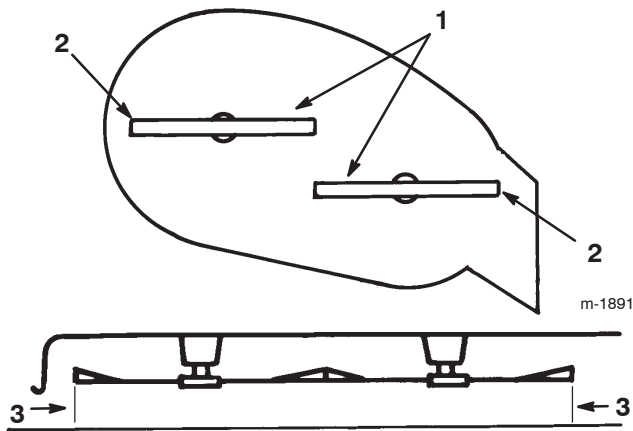

Figure 46
- Carefully rotate the blades side to side (Fig. 46). Measure between the outside cutting edges and the flat surface (Fig. 46). If both measurements are not within 3/16 in. (5 mm), an adjustment is required; refer to steps 6 and 7.